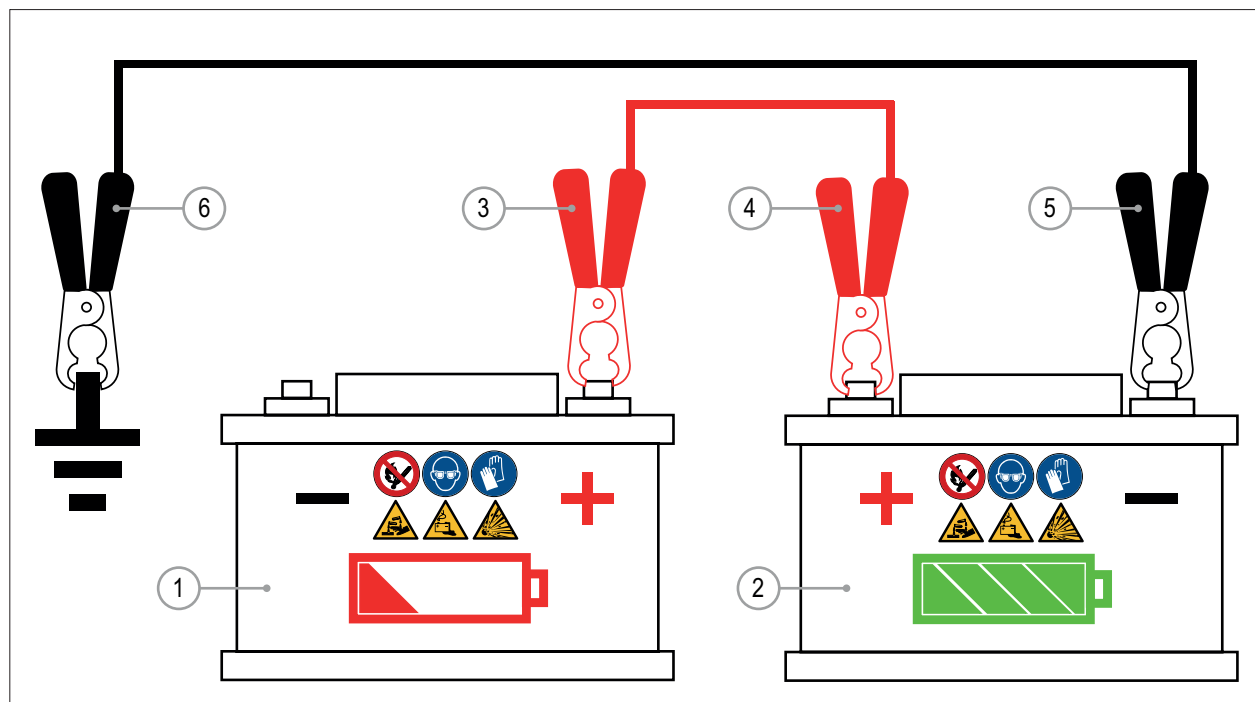

FIG. 39
If the machine battery (FIG. 39 - Rif. 1) is disabled it is possible to start the engine using an booster battery and the booster cables (FIG. 39 - Rif. 2) or a booster.
- 3) Connect positive (+) booster cable to disabled machine battery positive(+) post (FIG. 39 - Rif. 3). You can also connect it to the positive post of the starter motor (FIG. 45 - Rif. 4).
- 4) Connect other end of positive(+) booster cable to booster battery positive(+) post (FIG. 39 - Rif. 4).
- 5) Connect negative (-) booster cable to booster battery negative (-) post (FIG. 39 - Rif. 5).
- 6) Connect other end of negative (-) booster cable to a metal part of machine frame or engine, away from battery (FIG. 39 - Rif. 6).